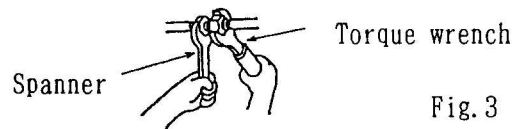

Fig. 3
④Tightening the flare nut on the indoor unit side should be done with 2 spanners as shown in Fig. 3.